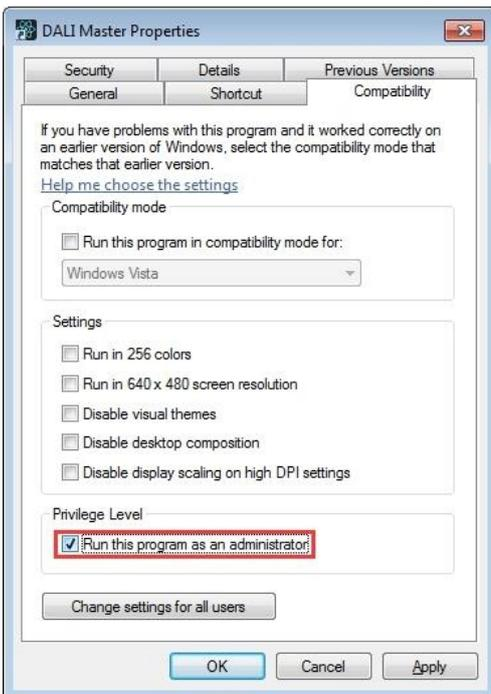

Figure 9. Run this program as an administrator
Step 1: Right click the desktop icon to check the properties, switch to "Compatibility" tab, and check item "Run this program as an administrator" as shown in Figure 9.
Step 2: Click "OK" to complete the setting as shown in Figure 9.